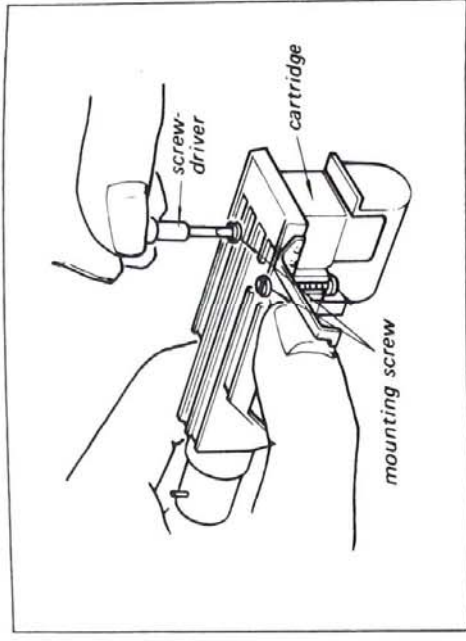

Fig. 2-9. Cartridge removal
3. Loosen the two cartridge mounting screws shown in Fig. 2-9 until the cartridge is free.